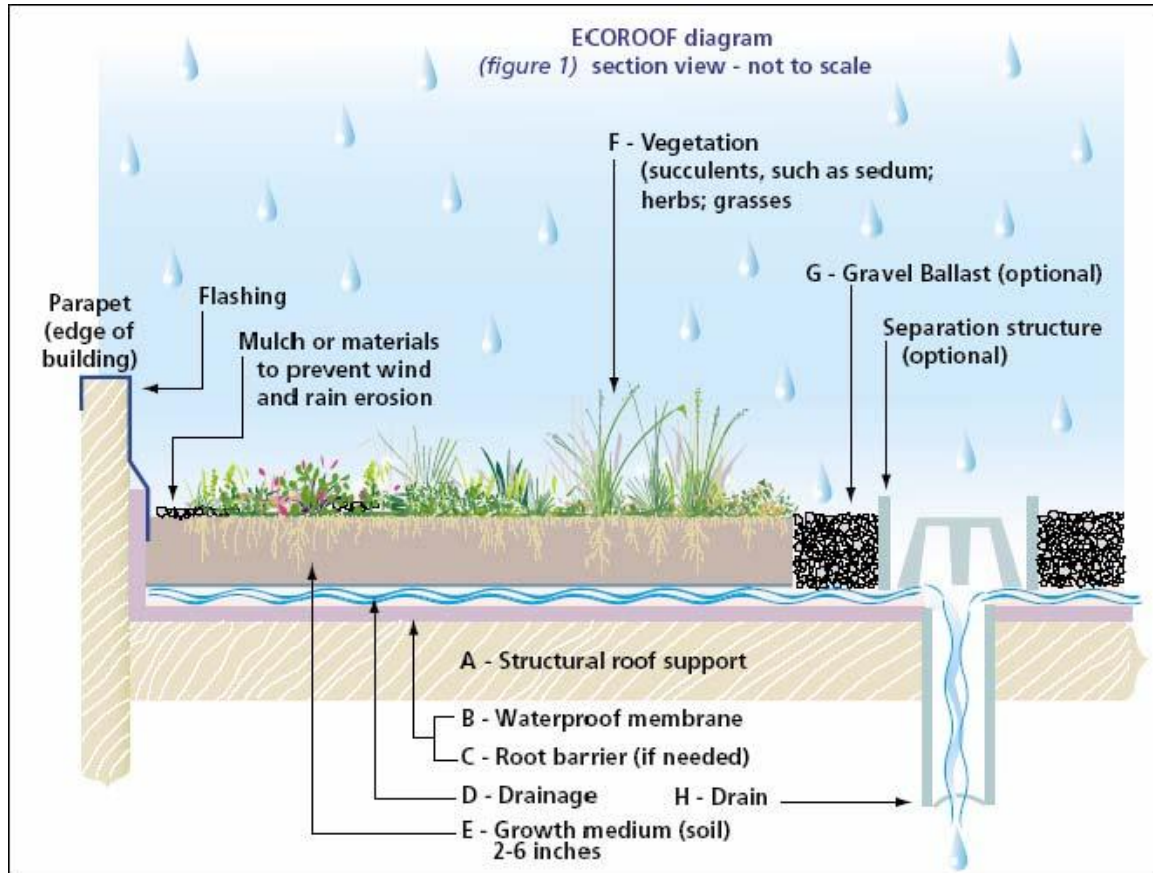

Figure 2.2.22-1 Green Roof Cross Section (from City of Portland, Oregon)
- A green roof typically consists of several layers, as shown in Figure 2.2.22-1. A waterproof membrane is placed over the roof’s structure. A root barrier is placed on top of the membrane to prevent roots from penetrating the membrane and causing leaks. A layer for drainage is installed above this, followed by the growth media. The vegetation is then planted to form the top layer. Details of the various layers are given below.